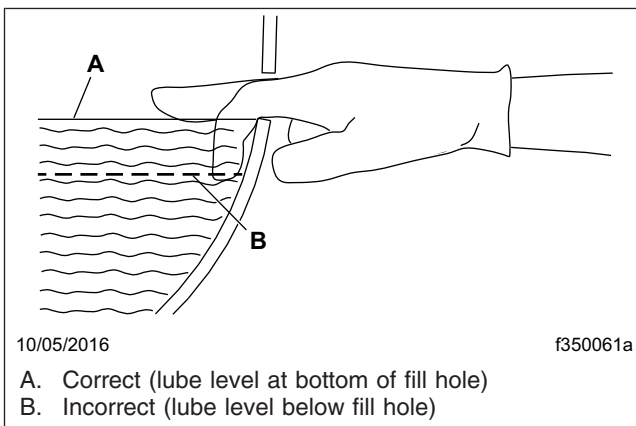

Fig. 3, Checking Axle Lubricant Level
4. Check that the lubricant is level with the bottom of the fill hole. See Fig. 3. If low, check for oil leaks, and correct as needed. Add oil to the level of the fill plug, using the lubricant in Table 1 for Detroit axles or Table 2 for Meritor axles.